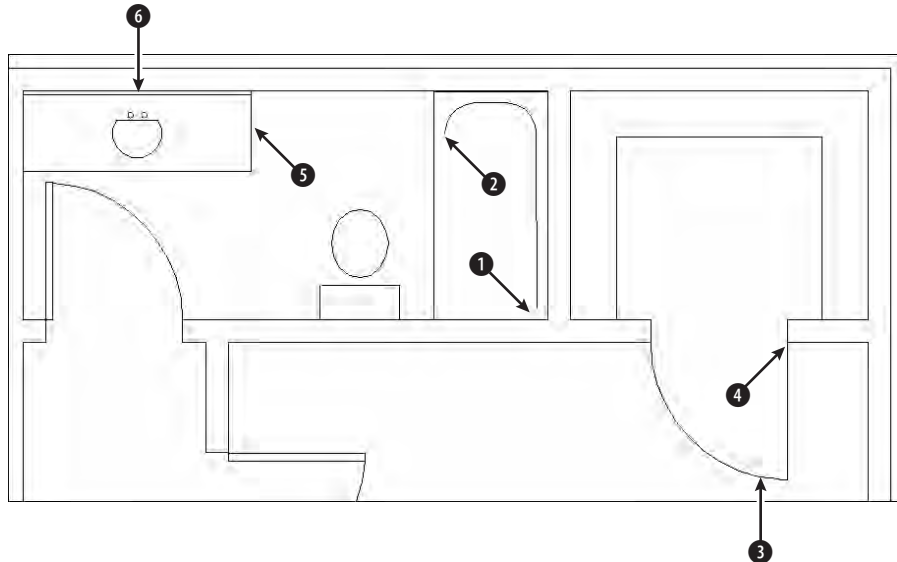

Figure 4-29: Using point filters to specify the start of a line
4. At the Specify first point: prompt, pick the endpoint at ❶ in Figure 4-29.
5. At the Specify next point or [Undo]: prompt, type `.x ↵`. At the of prompt, pick the endpoint at ❷ in Figure 4-29.
6. AutoCAD responds with the (need YZ): prompt. (Because you are drawing in 2D, you can ignore the Z.) Choose the endpoint at ❶ in Figure 4-29. AutoCAD draws the line segment to the point defined by the X coordinate of ❷ and the Y coordinate of ❶.
7. At the Specify next point or [Undo]: prompt, pick the endpoint at ❷. End the LINE command.
8. Start the LINE command again. At the Specify first point: prompt, pick the endpoint at ❸. If necessary, press Tab until you see the arc highlighted so that you know you have the endpoint of the arc.
9. At the Specify next point or [Undo]: prompt, type .y ↵. At the of prompt, pick the endpoint at ❹ in Figure 4-29.
10. At the (need XZ): prompt, pick the endpoint at ❸.
11. At the Specify next point or [Undo]: prompt, pick the endpoint at ❹. End the LINE command.
12. Start the CIRCLE command. At the Specify center point for circle or [3P/2P/Ttr (tan tan radius)]: prompt, type .y ↵. At the of prompt, pick the midpoint at ❺. At the (need XZ): prompt, pick the midpoint at ❻. AutoCAD places the center of the circle.